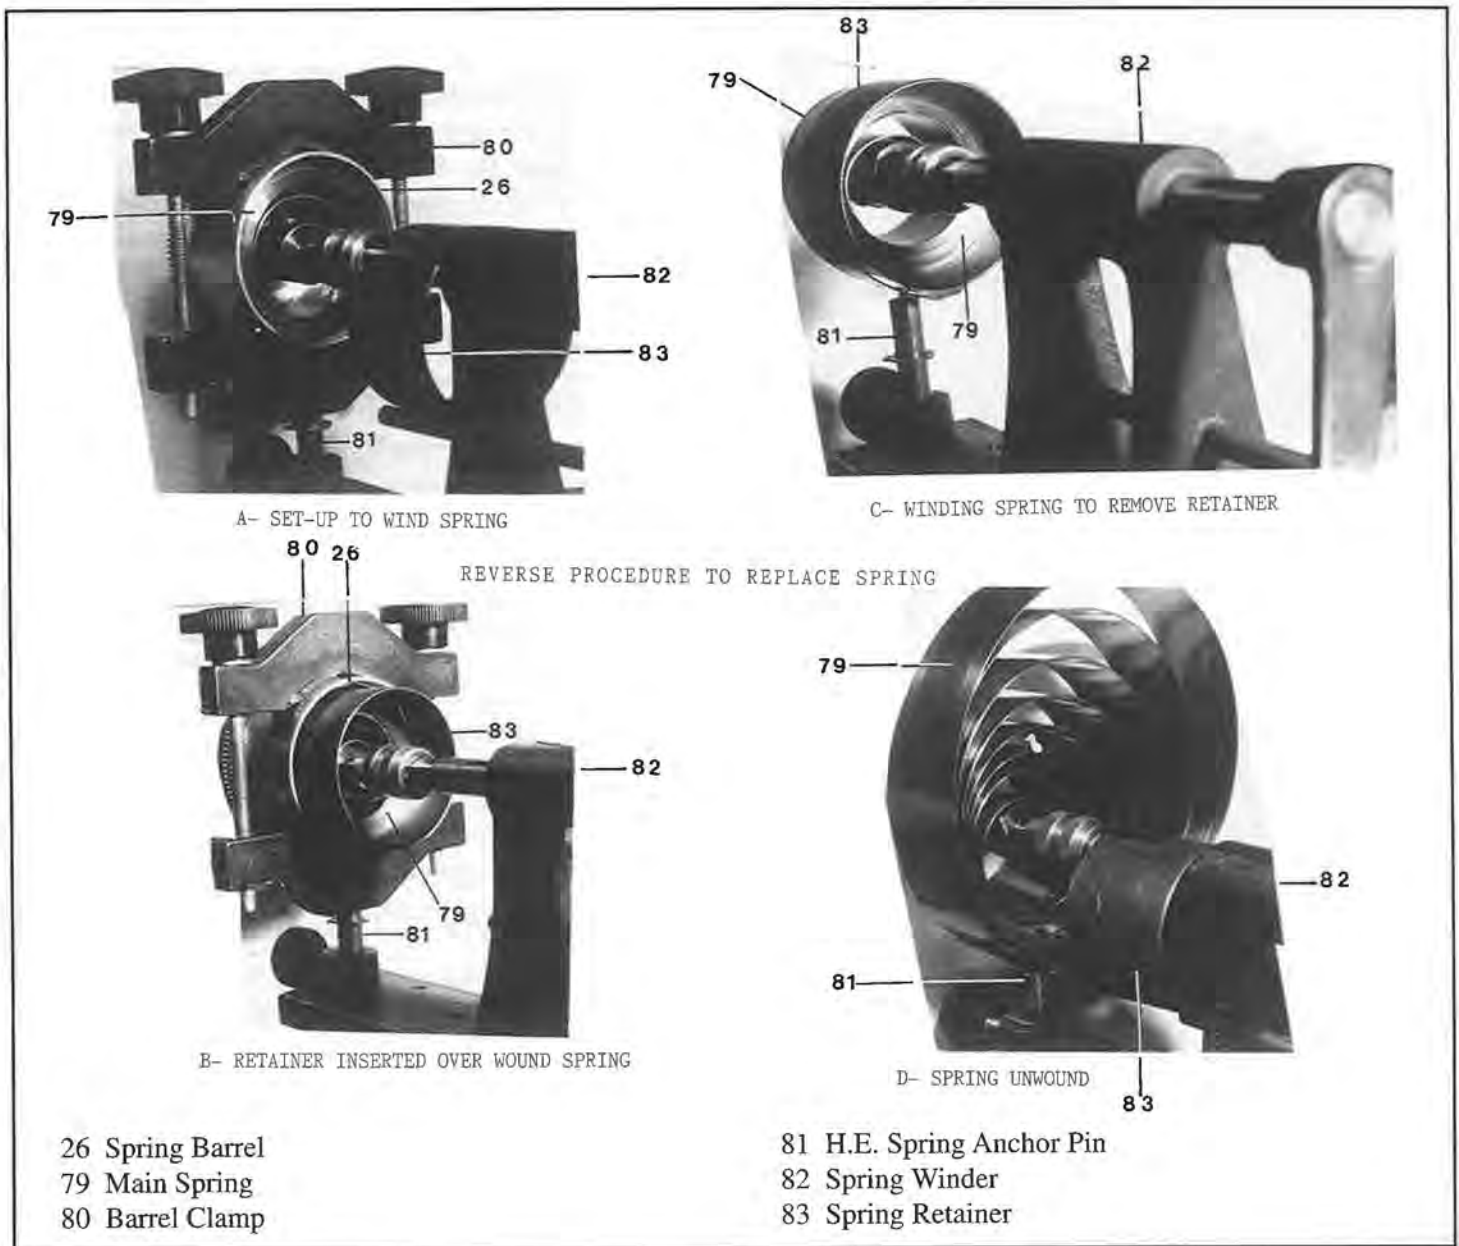
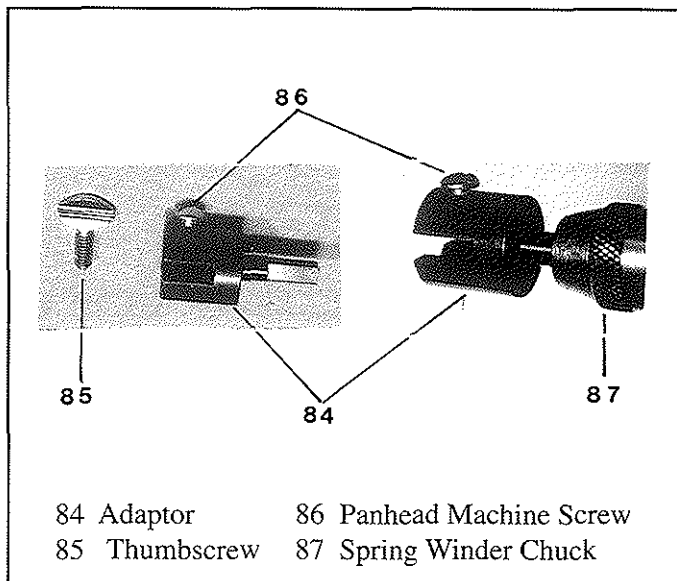

Figure 10.2. Setup to remove spring.
Figure 10.3. Key drive adaptor converted to large winding arbor.
A special arbor comes with the winder for use with the regular clock key. The outside diameter closely approximated the music box arbor diameter. I modified it by replacing the thumbscrew with a panhead screw. (See Figure 10.3.) The screw head was filed down to enter the inner coil hole. It acted as an arbor hook, and did the job well. (See Figure 10.2.)
13.2. Remove spring, if winder is available. (See Figure 10.2 for procedure with the Keystone winder.)